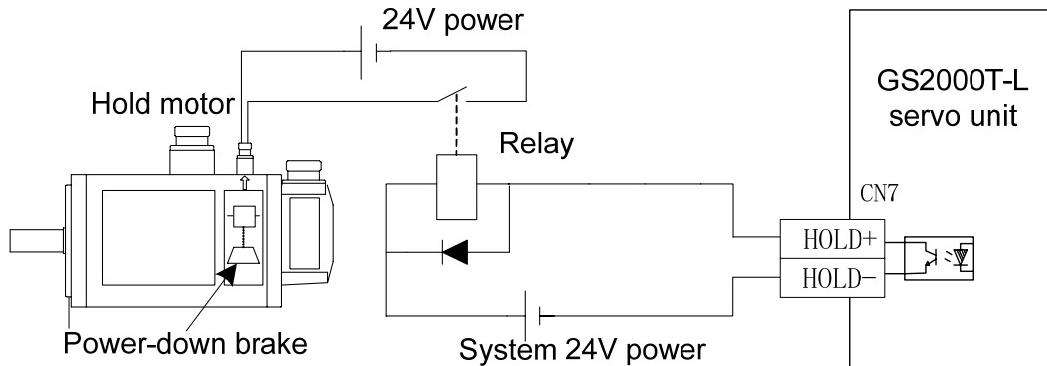

Fig. 6-2 The typical example of the HOLD± brake releasing signal
- ① First of all, correctly connect the wiring based upon the Fig. 6-2; it is very essential to note that the required input signal in the following table must be connected.
The brake releasing signal, in the Fig. 6-2, controls the actual wiring principle of the brake motor. The 24V in the following figure is offered by user; note that the polarities of the leading power when the brake releasing signals (HOLD±) are executed.